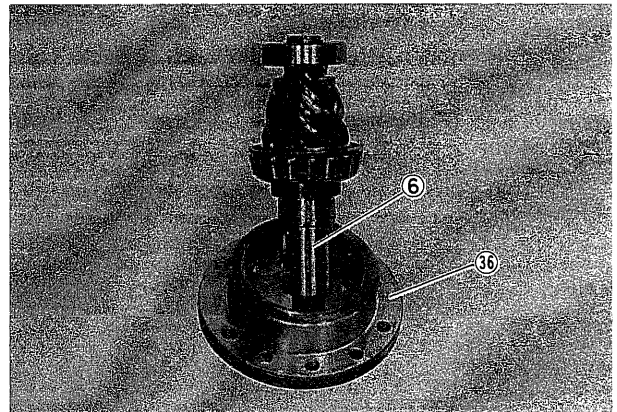

Fig. 63
- 4) Press out drive pinion (6) from cage (36) using a bench press or puller. Then bearing inner race, distance piece and shim will come off. (Fig. 63)